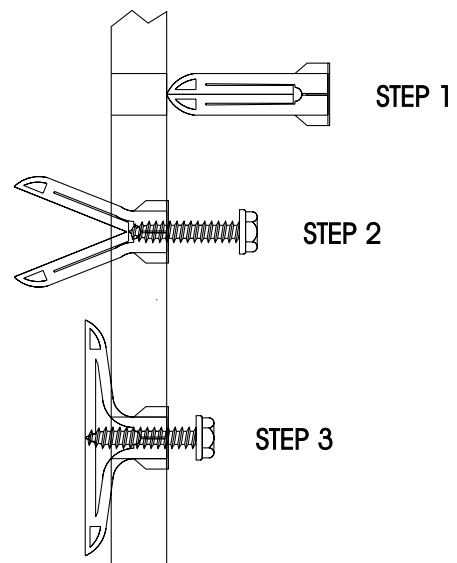

Figure 8
1. After locating mounting holes, drill (3) 5/16" (8mm) diameter holes into the wall.
2. Insert (3) plastic expansion anchors provided into the holes.
3. Tighten (3) #10 x 1" (25mm) screws provided into the plastic expansion anchors. Do not completely tighten screwheads to the plastic expansion anchors, leave a 1/8" (3mm) gap between screwheads and plastic expansion anchors. Refer to Figure 8.
4. Mount heater onto the (3) screwheads and complete tightening the screwheads to the plastic expansion anchors.